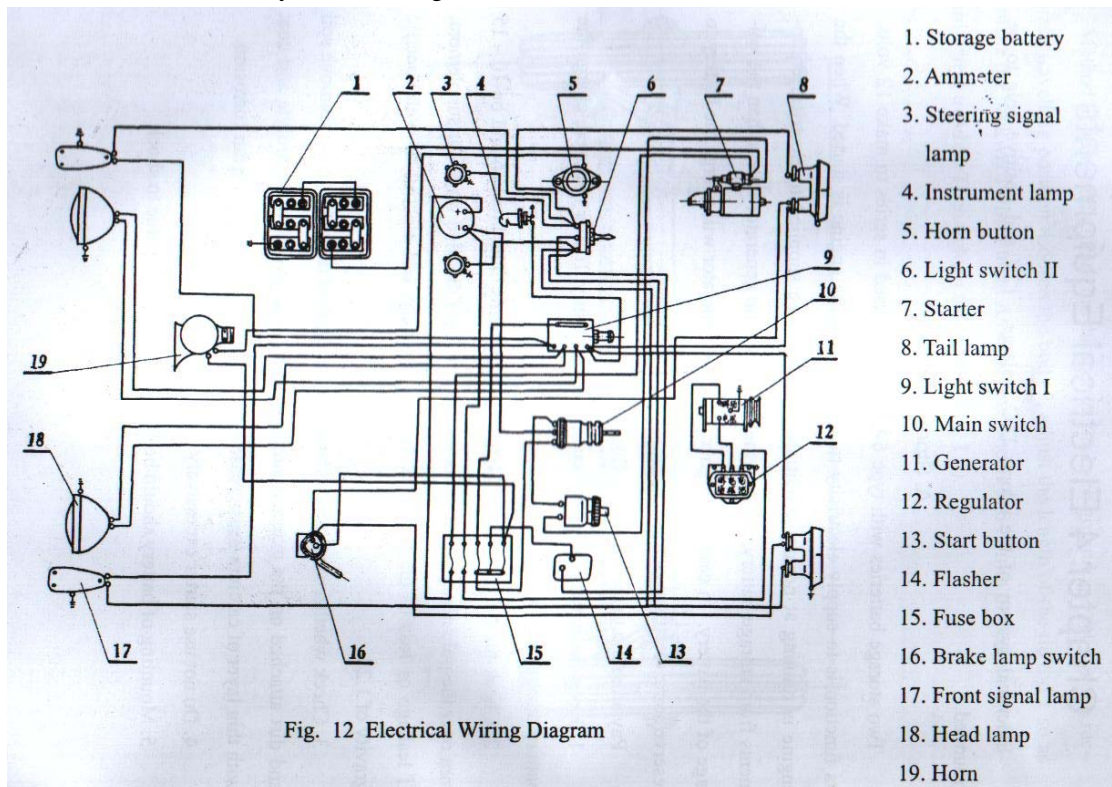

Fig. 12 Electrical Wiring Diagram
1. Adjustment of seat according to the weight of driver (Fig. 12)